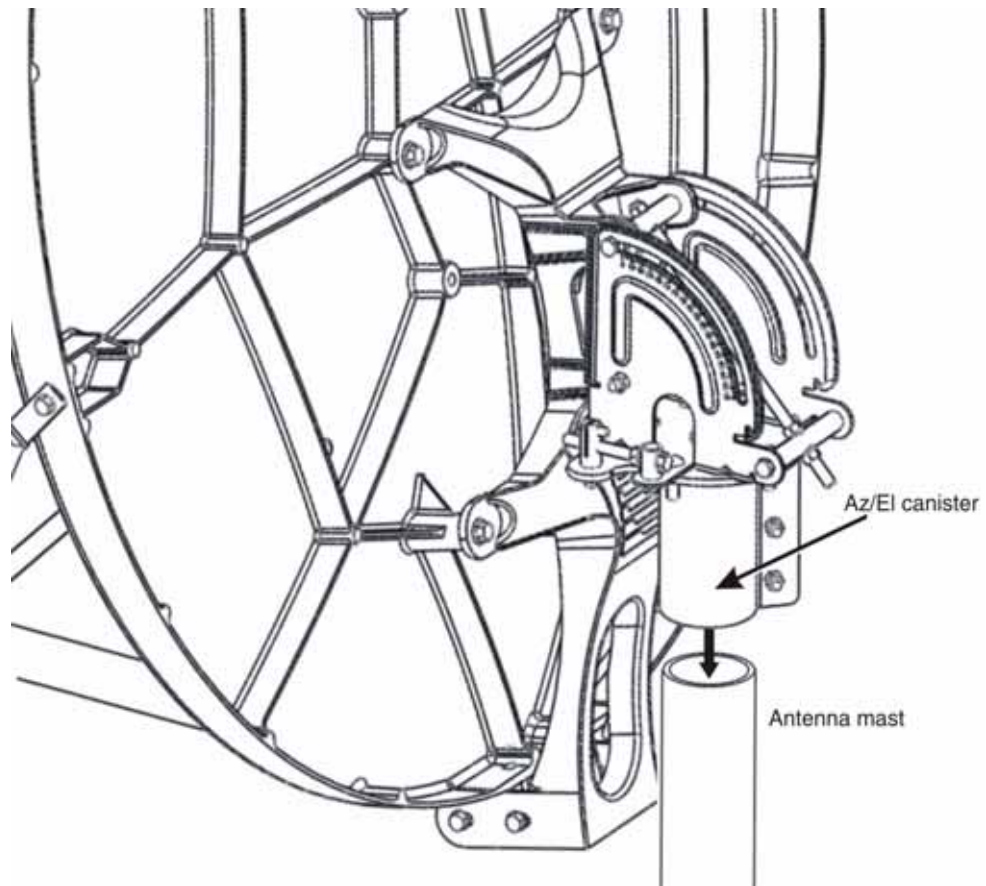

Figure 27: Installing the antenna onto the mast pipe
2. Slide the Az/EI canister down onto the mast as shown in Figure 27.